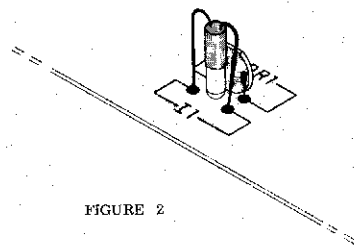

FIGURE 2
- () Install J1 as shown in assembly detail figure 2. Cut both leads of the lamp to a length of 1-1/8" measured from where they enter the base and strip 1/8" insulation from the ends. Be careful not to pull the leads from the lamp during cutting and stripping.